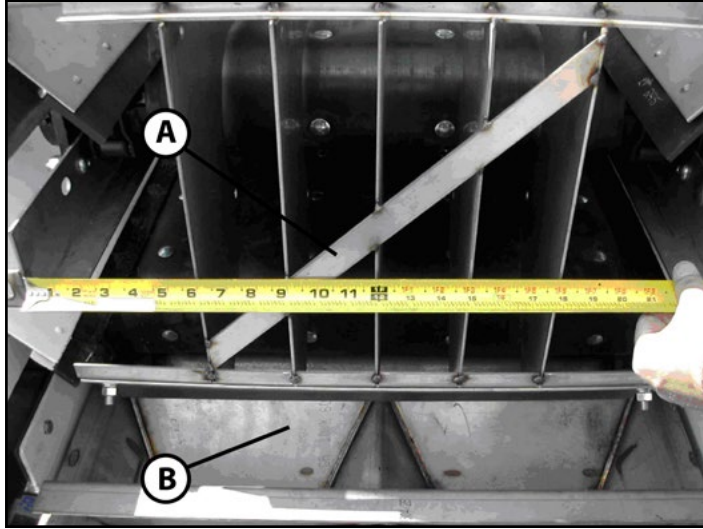

Figure 15A - MULTAPPLIER Hillside Divider (Style I)
Style I MULTAPPLIER - Remove hardware from rear two chain shield holes on each side of MULTAPPLIER and set aside. Install MULTAPPLIER Hillside Divider (A) over conveyors and attach using chain shield hardware. Adjust Hillside Divider so that the middle divider is centered over both conveyors and the Material Divider (B) as shown in Figure 15A. Tighten hardware to recommended torque.